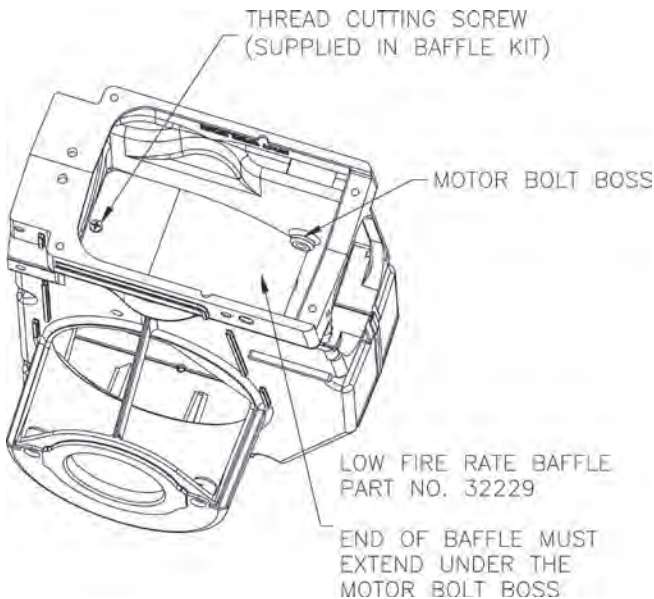

Figure 31: Mounting Low Fire Rate Baffle in Burner Housing
- Lift up the igniter baseplate and verify that a burner has factory installed Low Fire Rate Baffle, if applicable. See Table 13 and Figure 31.